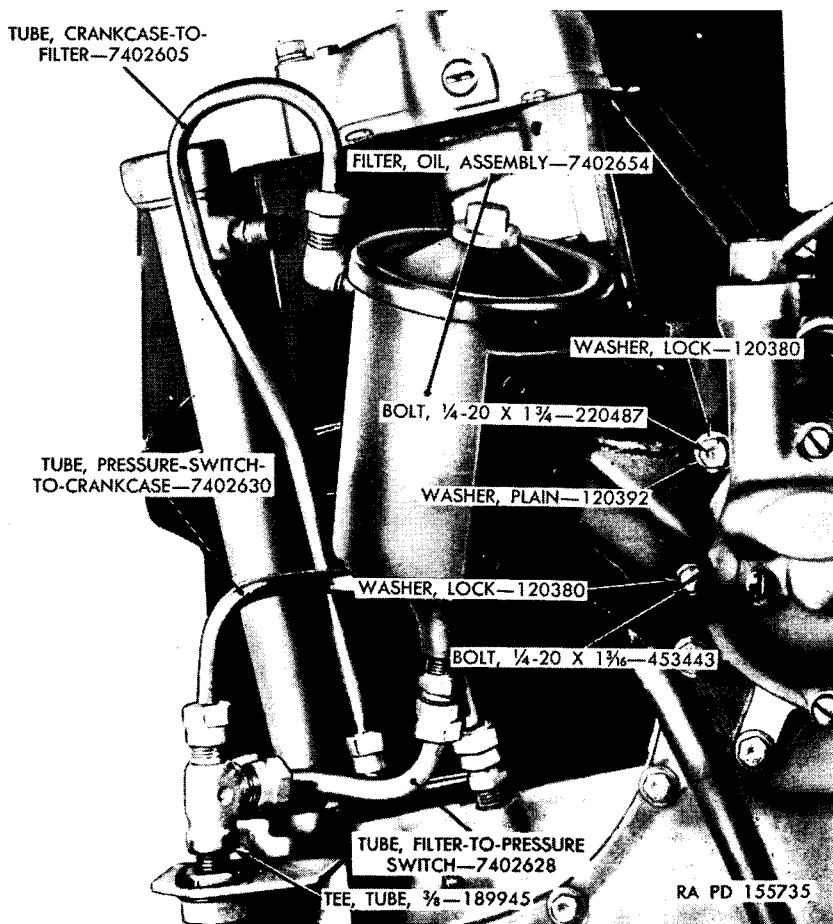

Figure 19. Oil filter.
a. Disconnect crankcase-to-filter tube (fig. 19) at crankcase and filter.
b. Disconnect filter-to-pressure switch tube (fig. 19) at filter and $\frac{3}{8}$ -tube tee.
c. Remove two $\frac{1}{4}$ -20 x $1\frac{1}{4}$ bolts, lock washers, and plain washers and one $\frac{1}{4}$ -20 x $1\frac{3}{8}$ bolt and lock washer (fig. 19) holding oil filter to governor. Remove filter.
- b. Disconnect pressure-switch-to-crankcase tube from pressure-switch-tube tee at crankcase and remove tube (fig. 19).